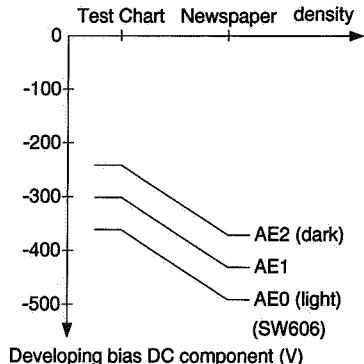

Figure 3-18
Figure 3-17 shows the changes in the DC component of the developing bias caused by the density control dial/lever in manual density control mode; Figure 3-18, on the other hand, shows changes in the DC component of the developing bias caused by different document densities in automatic density adjustment mode (AE).